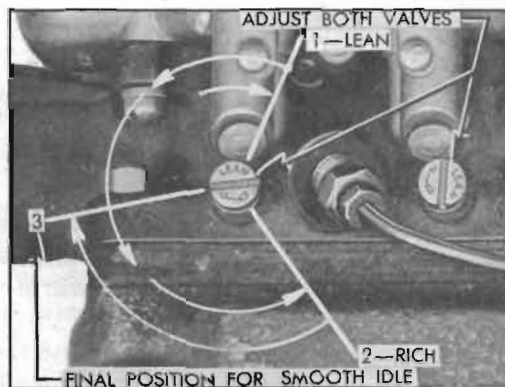

Figure 3-9—Adjustment of Idle Needle Valves
2. With engine at normal operating temperature and idling at 450 RPM, adjust one needle valve at a time (fig. 3-9) to provide smooth idle, as follows: